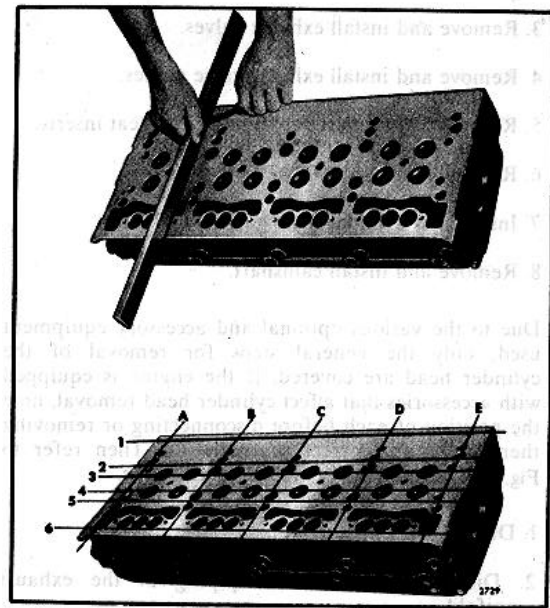

Fig. 8. Checking Bottom Face of Cylinder Head
- a. Use a heavy, accurate straight-edge and feeler gages, tool J 3172, to check for transverse warpage at each end and between all cylinders. Also check for longitudinal warpage in six places as shown in Fig. 8. Refer to Table 1 for maximum allowable warpage.